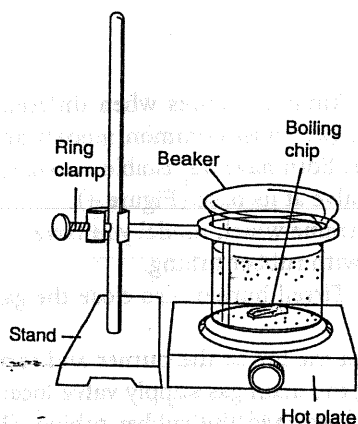

Figure 7. Heating a liquid in a beaker
1. Place a 250-mL beaker half-filled with water on a hot plate (Figure 7).